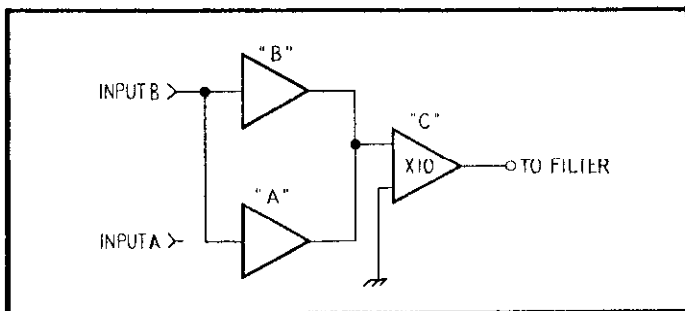

FIGURE 5. Single-Ended Mode.
**b. Single-Ended Mode (-B INPUT).** In this mode the input amplifiers are connected together to form a single-ended inverting amplifier as shown in Figure 5. The signal at INPUT B will be amplified and inverted. The signal at INPUT A is not connected. Amplifiers "A" and "B" are summed to provide very low noise characteristics.